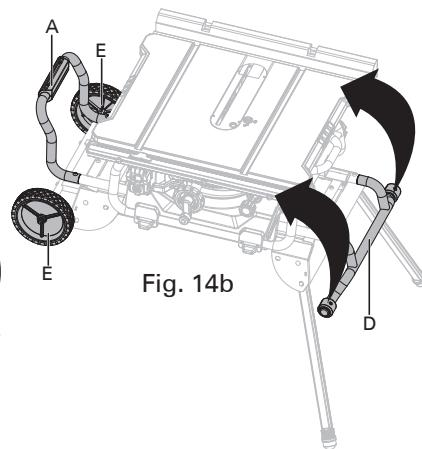
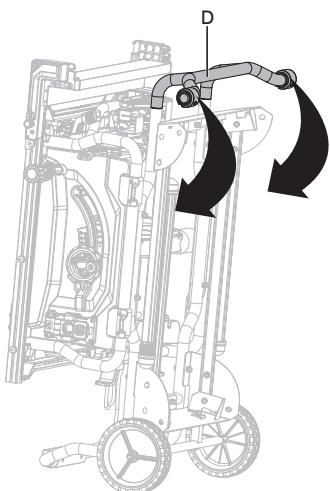
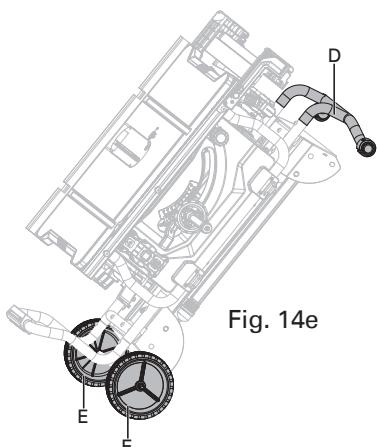

Fig. 14b
Fig. 14d
Fig. 14e
- Grasp the stand support assembly (A) and lift it up until two stand legs (B) (located on side of the wheel) leave the ground, then fold in two stand legs (B). To do this, push the lock pins (C) until they unlock the stand legs (B) from the holes, then swing the stand legs (B) upward until the stand legs are locked with the locking pins (C) engage the holes.
- Grasp the handle I (D) and tilt saw back onto wheels until the stand is balanced on the wheels (E) and stand support assembly (A). (Fig. 14b-14c)
- Fold in other two stand legs (F). To do this, push the locking pins (G) until they unlock the stand legs (F) from holes, then swing the stand legs downward until the stand legs are locked with the locking pins (G) engage the holes.
- Grasp the handle I (D) firmly and tilt saw to you, push the saw to the desired location (Fig. 14e) then either open the stand or store the saw (Fig. 14d & 14f) in a dry environment.